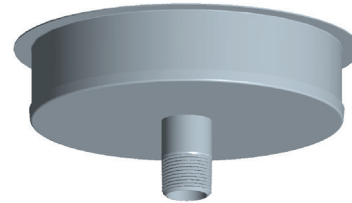

Figure 41: Drain Tee Cap (DTC)
The Drain Tee Cap (DTC) is used as a drain for the base of vertical installations and must be connected to a suitable disposable point. It can also be used as an access for clean outs or access purposes. (See Figure 41) Same installation as a Tee Cap (TC).